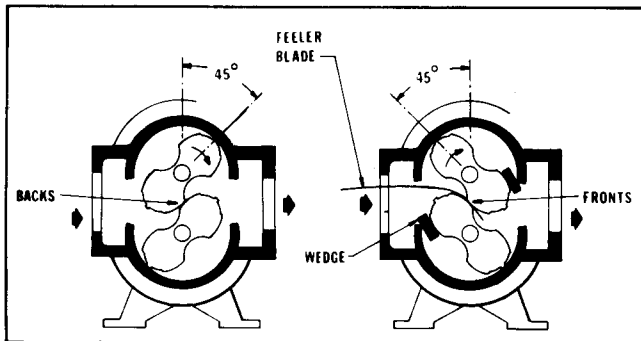

Figure 6 — Impeller Timing Viewed From Gear End
It is recommended that major repairs, if needed, be performed at the Factory or at a Dresser Service facility. However, it is recognized that this may not always be practical, especially when a spare blower is not available. If a blower is out of the warranty period, mechanical adjustments and parts replacement may be undertaken locally at the owner's option and risk. It is recommended that Factory Parts be used to insure fit and suitability. The maintenance of a small stock of on-hand spare parts can eliminate possible delays. When ordering parts give Item Numbers and their word descriptions from Figures 6 or 7 and Table 6. Also specify quantities wanted, and the blower size and serial number from the nameplate.
1. Drain oil completely from the gearbox sump by removing plug (22) in bottom of the headplate (2).
2. Remove all capscrews (26) holding the gearbox except the upper two. Bump the gearbox to break the joint, remove the last two capscrews and lift off the gearbox carefully in the horizontal plane avoiding contact with the gears. Remove gasket (7).
3. Be sure that each gear is marked for return to the same shaft and that the gears have match marks for the teeth alignment. Wedge the impellers as shown in Fig. 6; then
threads and face and install it on the stud. Block the impellers per Fig. 6. Push the bearing all the way against the sleeve (38) by turning the nut. Repeat for the second bearing.
8. The end clearances are set during the installation of bearing clamp plates. Install bearing clamp plates (34) using self locking screws (32). Measure the gear end clearance; turn the screws (34) in evenly till gear end clearance per Table 5 is achieved. Rotate the impellers a few times to center the bearings and recheck end clearances. Measure clearance between the bearing clamp plate and the headplate under the screw heads. This clearance should be same under each head. Obtain shim (74) equal to this clearance. Insert shim (74) between clamp plate and headplate under each capscrew (32). Tighten capscrews (32). Recheck end clearances.
9. Installing driven gear - Be sure shaft taper fits and gear bores are clean and free of scratches. THE GEAR BORES AND THE SHAFT TAPER FITS MUST BE FREE OF OIL. Place hardwood wedges as shown in Fig. 6. Install oil slinger (46) on the backside of the driven gear using washer (59) and capscrew (58). Torque the capscrews to 25 ft-lb. These capscrews are self locking type and should be replaced during each tear down. Apply Molykote Gn Paste to gear capscrews (31), on the threads and under the heads. Molykote Gn paste is available from Bearing Distributors. Install driven gear (4), washer (30), washer (69) and capscrew (31) so that match mark at tooth is at the line of engagement. Tighten the capscrew (31) to the torque in Table 4.
10. Installing drive gear (4) - Install a long, metal feeler gauge between the impeller lobes at the fronts as shown in Figure 6. Feeler gauge thickness to be a middle value from Table 5 for fronts. Align the gear so the tooth match marks agree with the driven gear, then install washer (30), washer (69) and capscREW (31). Tighten lightly with a small wrench, then check front and back clearances against Table 5 for each 45° position. Both fronts should be about the same and backs should about equal and within the specified range in Table 5. Adjust gear position, if necessary, then insert the corrected feeler gauge and wedges and use a torque wrench to tighten the gear capscREWS to the torque specified in Table 4. Remove wedges and rotate the drive shaft by hand to make sure there are no gear tight spots or impeller contacts.